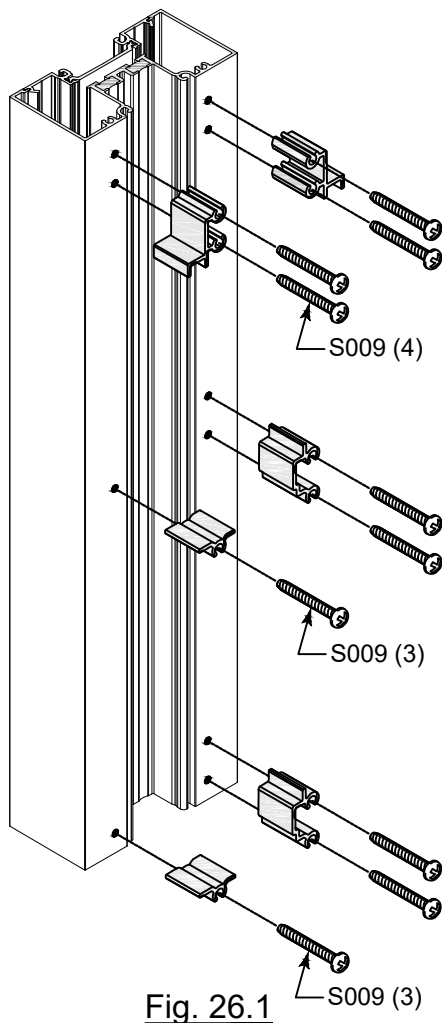

Fig. 26.1
- Install shear blocks onto vertical and closure pocket members with S009 #10 x 1 3/4" PH screw as shown in Figure 26.1.